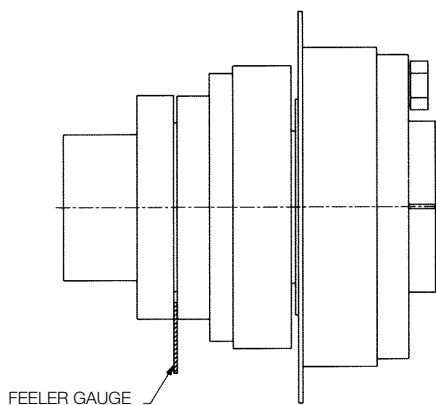

Figure 13 - Angular “C” Coupling Alignment
- a. Measure the gap around the periphery between the coupling flange and clutch **without rotating** the shafts. Refer to Figure 13.
4. Press off the cylinder half from the rotor as shown in Figure 13.